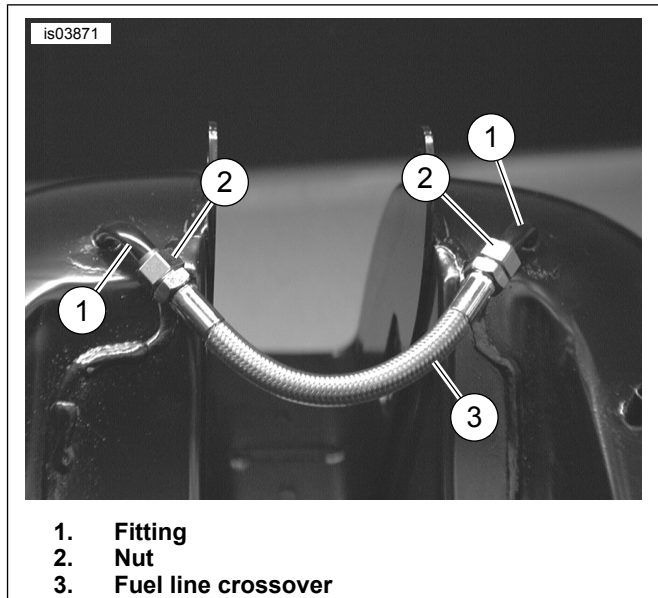
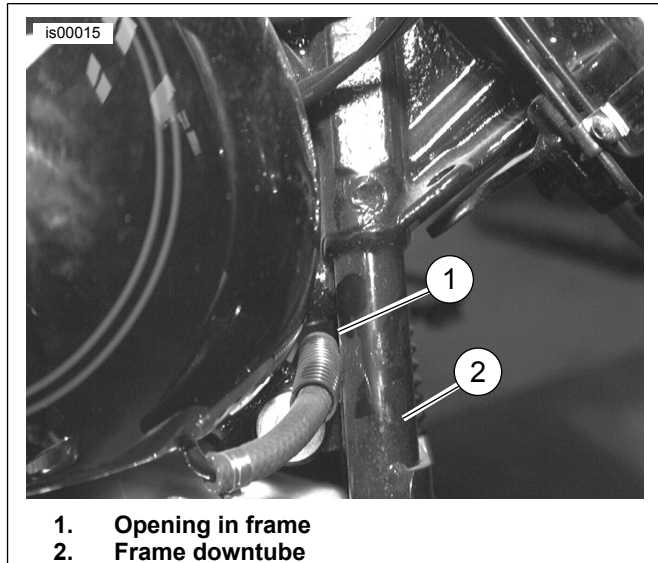

Figure 1. Install Braided Line (Typical) (Tank removed for illustration purposes only)
Figure 2. Fuel Line Routing (1986 to 1999 Softail Models Only)
4. For ALL models **except 1986 through 1999 Softails**: See Figure 1. Following the same routing as the original crossover hose, install the braided line from the kit to each of the nuts. **For 1986 through 1999 Softail models**: See Figure 2. Route the braided crossover line through the opening in the frame at the inboard side of the frame downtubes as shown.